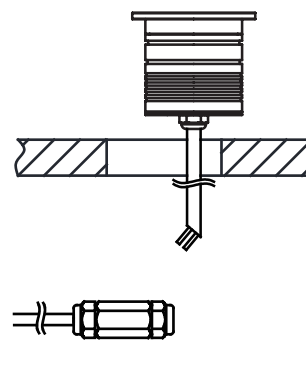

Fig 1.3
- 1.3 Connect the light fitting cable to the junction box. (See Fig 1.3)